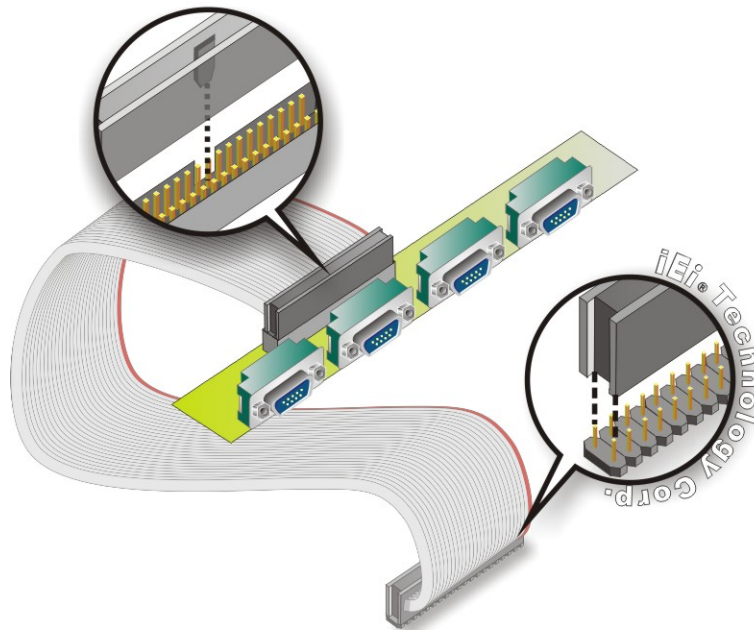

Figure 5-14: 4-COM Port Adapter Board
- Step 2:** **Insert the cable connector.** Align the cable connector with the onboard connector. Make sure the pin 1 on the cable connector is properly aligned with pin 1 on the board connector. Figure 5-14.
- Step 3:** **Connect the adapter board to the cable.** The adapter board with the four COM ports must then be attached to the cable. Make sure the cable connector is properly aligned with the connector on the adapter board. Make sure the pin 1 on the adapter board connector and the cable connector are aligned. See Figure 5-14.